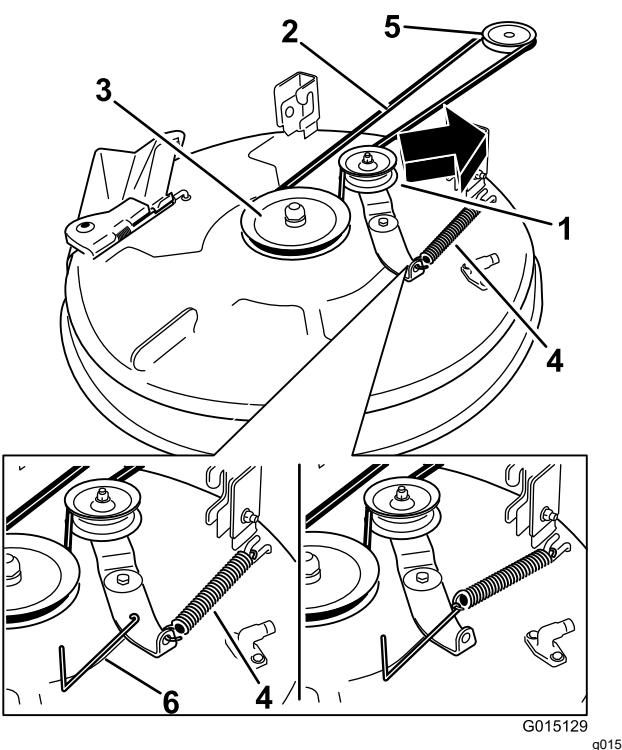
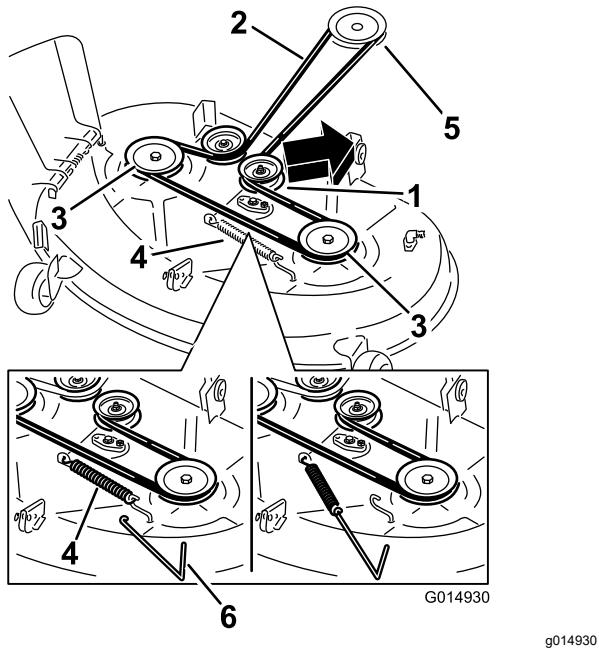

Figure 46
Figure 47
5. Using a spring-removal tool (Toro Part No. 92-5771), remove the idler spring from the deck hook to remove tension on the idler pulley, and roll the belt off the pulleys (Figure 46 and Figure 47).
6. Route the new belt around the engine pulley and mower pulleys (Figure 46 and Figure 47).
7. Using a spring-removal tool (Toro Part No. 92-5771), install the idler spring over the deck hook and place tension on the idler pulley and the mower belt (Figure 46 and Figure 47).